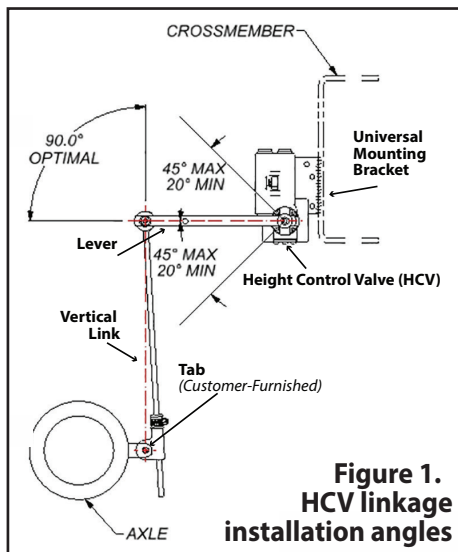

Figure 1.
4. Slide the vertical link up-or-down through P-Connector until lever arm reaches desired angle (Fig.1). Tighten the band clamp on the P-Connector to hold the vertical link in place. Leave approximately one inch of the rod beneath the P-Connector. Remove the excess rod.